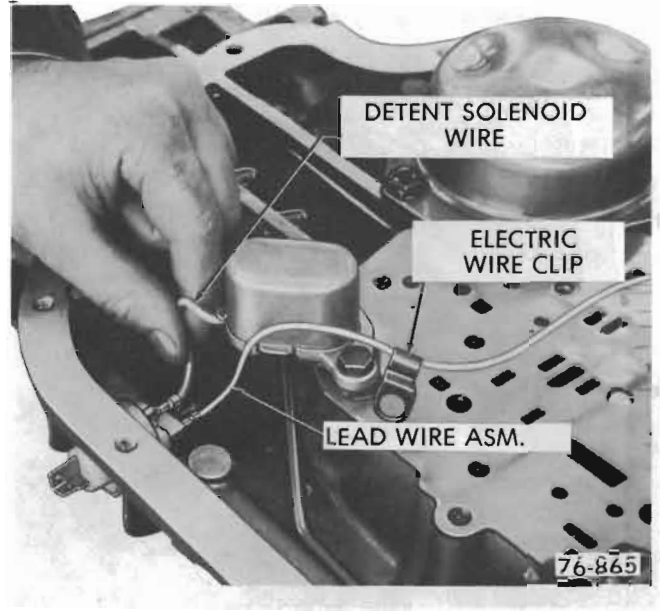

Figure 76-63
7. Disconnect detent solenoid wire from case connector. See Figure 76-63.